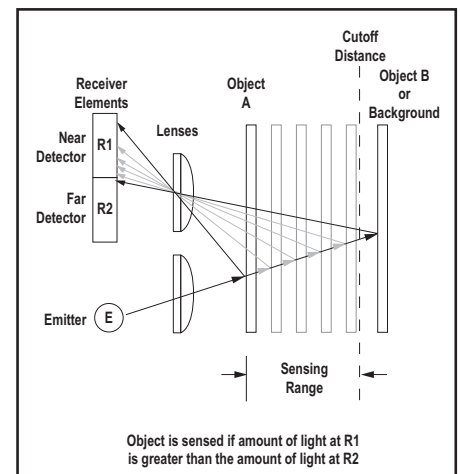

Figure 2. Fixed-field concept
In operation, the M12FF compares the reflections of its emitted light beam (E) from an object back to the sensor's two differently-aimed detectors R1 and R2 (see Figure 2). If the near detector (R1) light signal is stronger than the far detector (R2) light signal (see object A, closer than the cutoff distance), the sensor responds to the object. If the far detector (R2) light signal is stronger than the near detector (R1) light signal (see object B, object beyond the cutoff distance), the sensor ignores the object.